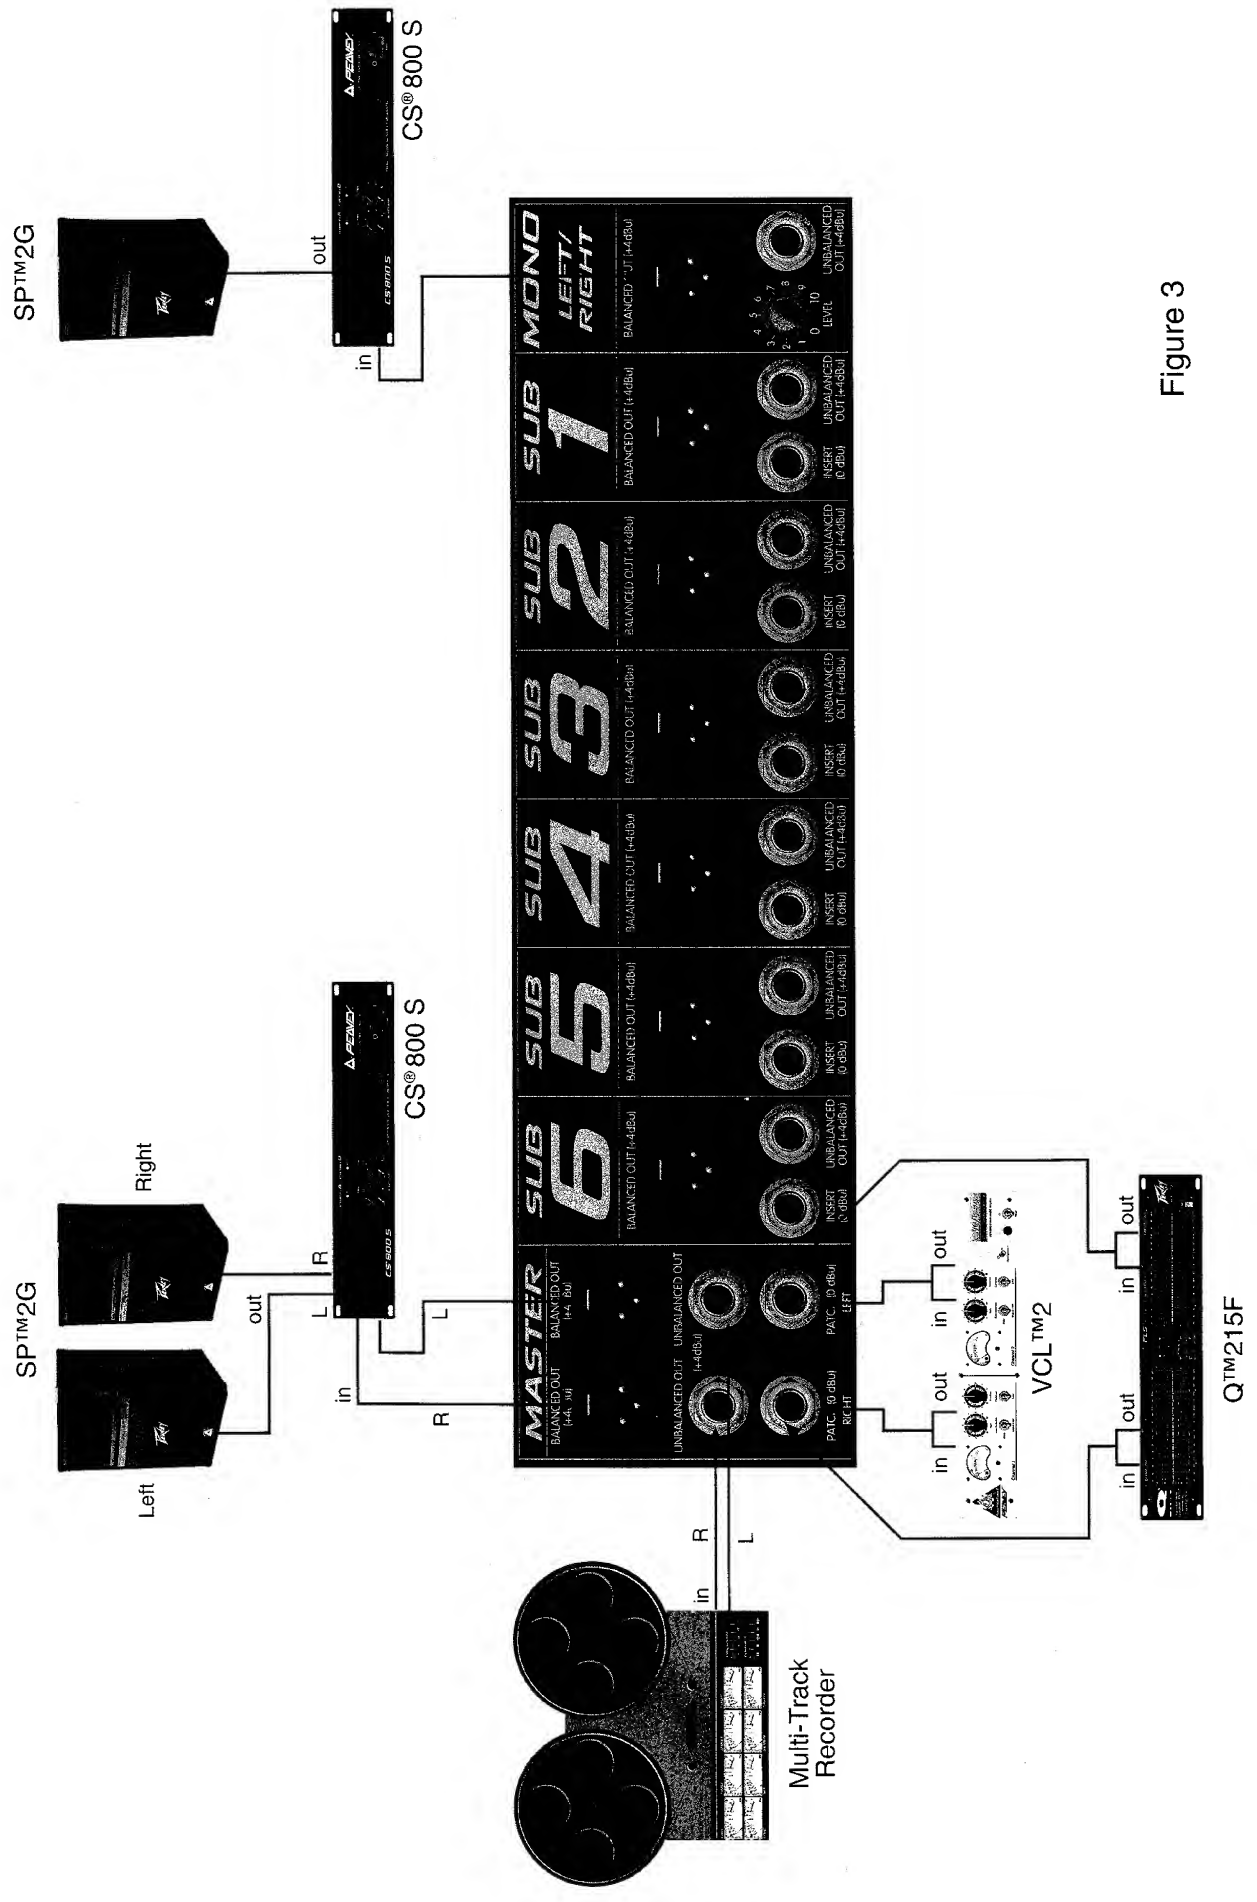

Figure 3
2. The house power amplifier inputs should be connected to the main LEFT and RIGHT outputs, or to the MONO output (Fig. 3) instruments (guitars) are also connected to the mic input through a direct. The MONO output is a blend of the LEFT and RIGHT output signals (post master fader) and has its own level control. It can be used to drive an additional amplifier that needs an independently set volume. If an effect device is used, connect its mono in and outs to the corresponding INSERT jack.